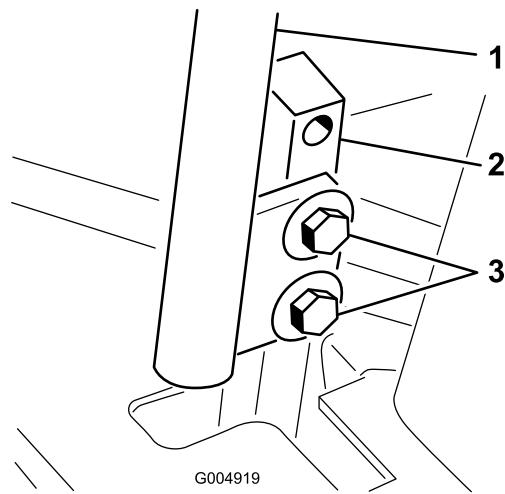

Figure 64
3. Loosen the bolts securing the control levers (Figure 64)